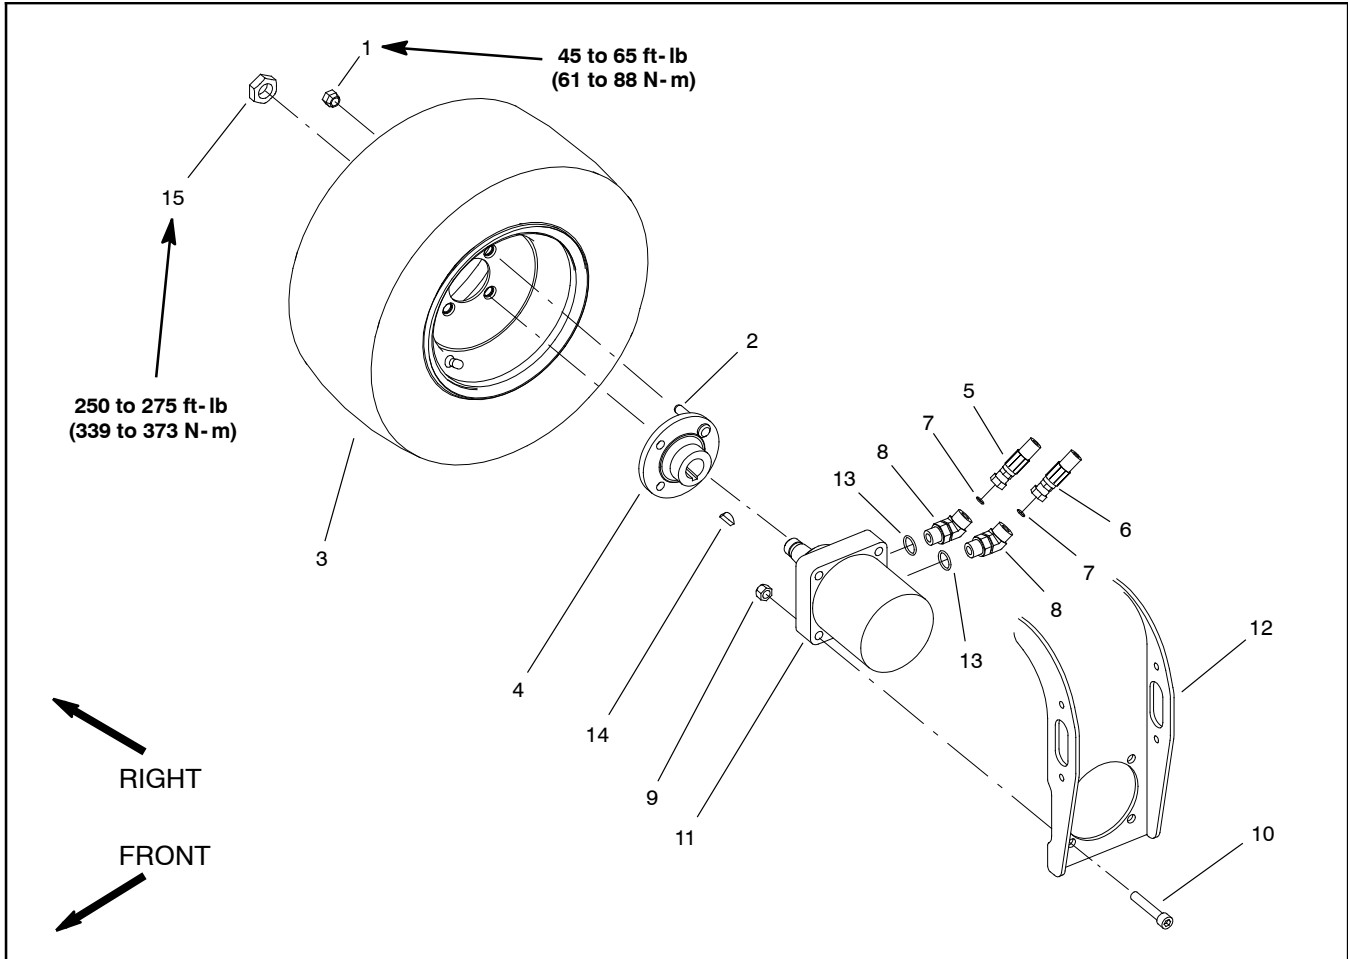

Figure 75
### Removal (Fig. 75)
4. Remove rear wheel motor with wheel hub attached from the rear fork using Figure 75 as guide.
### **Installation (Fig. 75)**
4. Install wheel motor to the rear fork using Figure 75 as guide.